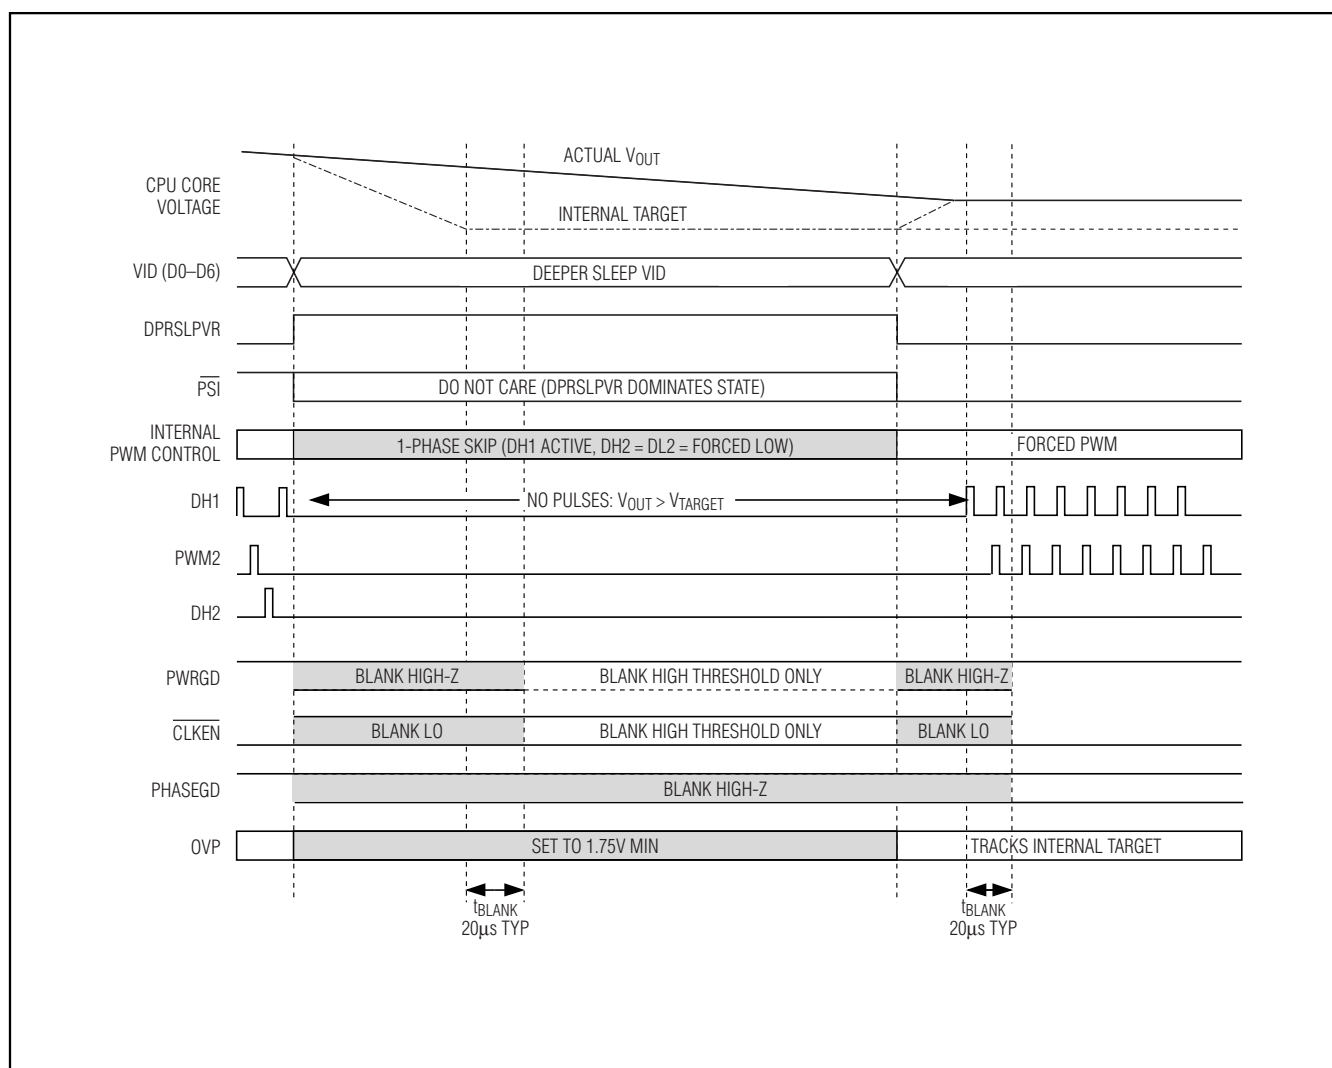

Figure 4. C4E (C4 Early Exit) Transition
When DPRSLPVR goes high, the MAX8770/MAX8771/MAX8772 immediately disable phase 2 (DH2 and DL2 forced low), blank PHASEGD high impedance (MAX8771 only), and enter pulse-skipping operation (see Figures 4 and 5). If the VIDs are set to a lower voltage setting, the output drops at a rate determined by the load and the output capacitance. The internal target still ramps as before, and CLKEN and PWRGD upper and lower thresholds remain blanked until 20μs after the internal target reaches the programmed VID code. Once this time expires, PWRGD monitors only the lower threshold:
- **Fast C4E Deeper Sleep Exit:** When exiting deeper sleep (DPRSLPVR pulled low) while the output voltage still exceeds the deeper sleep voltage, the MAX8770/MAX8771/MAX8772 quickly slew (50mV/μs min regardless of R_{TIME} setting) the internal target voltage to the DAC code provided by the processor as long as the output voltage is above the new target. The controller remains in skip mode until the output voltage equals the internal target. Once the internal target reaches the output voltage, phase 2 is enabled. The controller blanks PWRGD, PHASEGD, and CLKEN (forced high impedance) until 20μs after the transition is completed. See Figure 4.